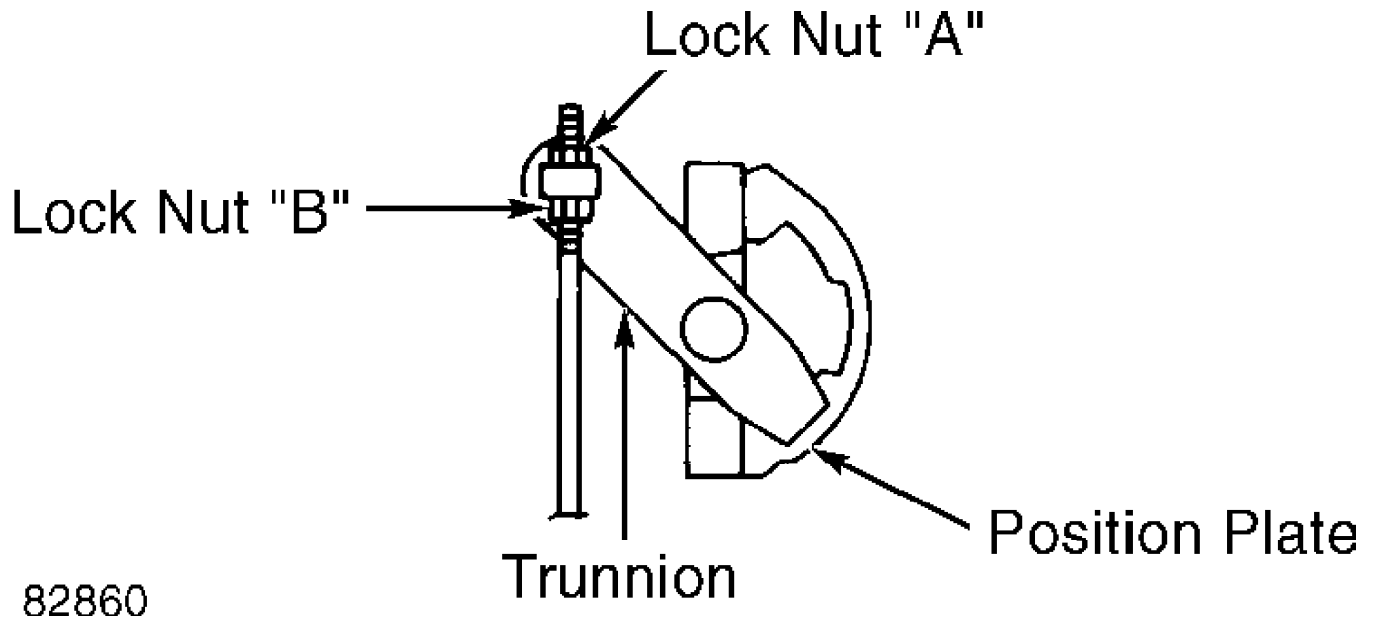

Fig. 4: Adjusting Shift Linkage (Pathfinder & Pickup w/Column Shift)
1) Place selector lever in the "P" range. Loosen lock nuts. See Fig. 4. Ensure transaxle is in Park. Pull selector lever toward "R" range side without pushing button and tighten lock nut "A" until it touches trunnion.